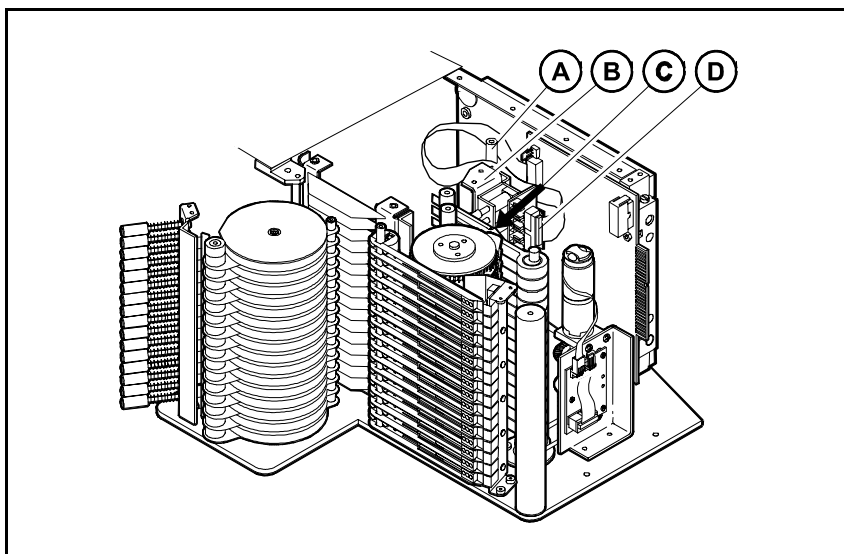

Figure 10. Reassembling
30. Put all the feeder arms between the friction discs ('C' in Figure 10).
31. Put the solenoid bar back to its place in the magazine (B).